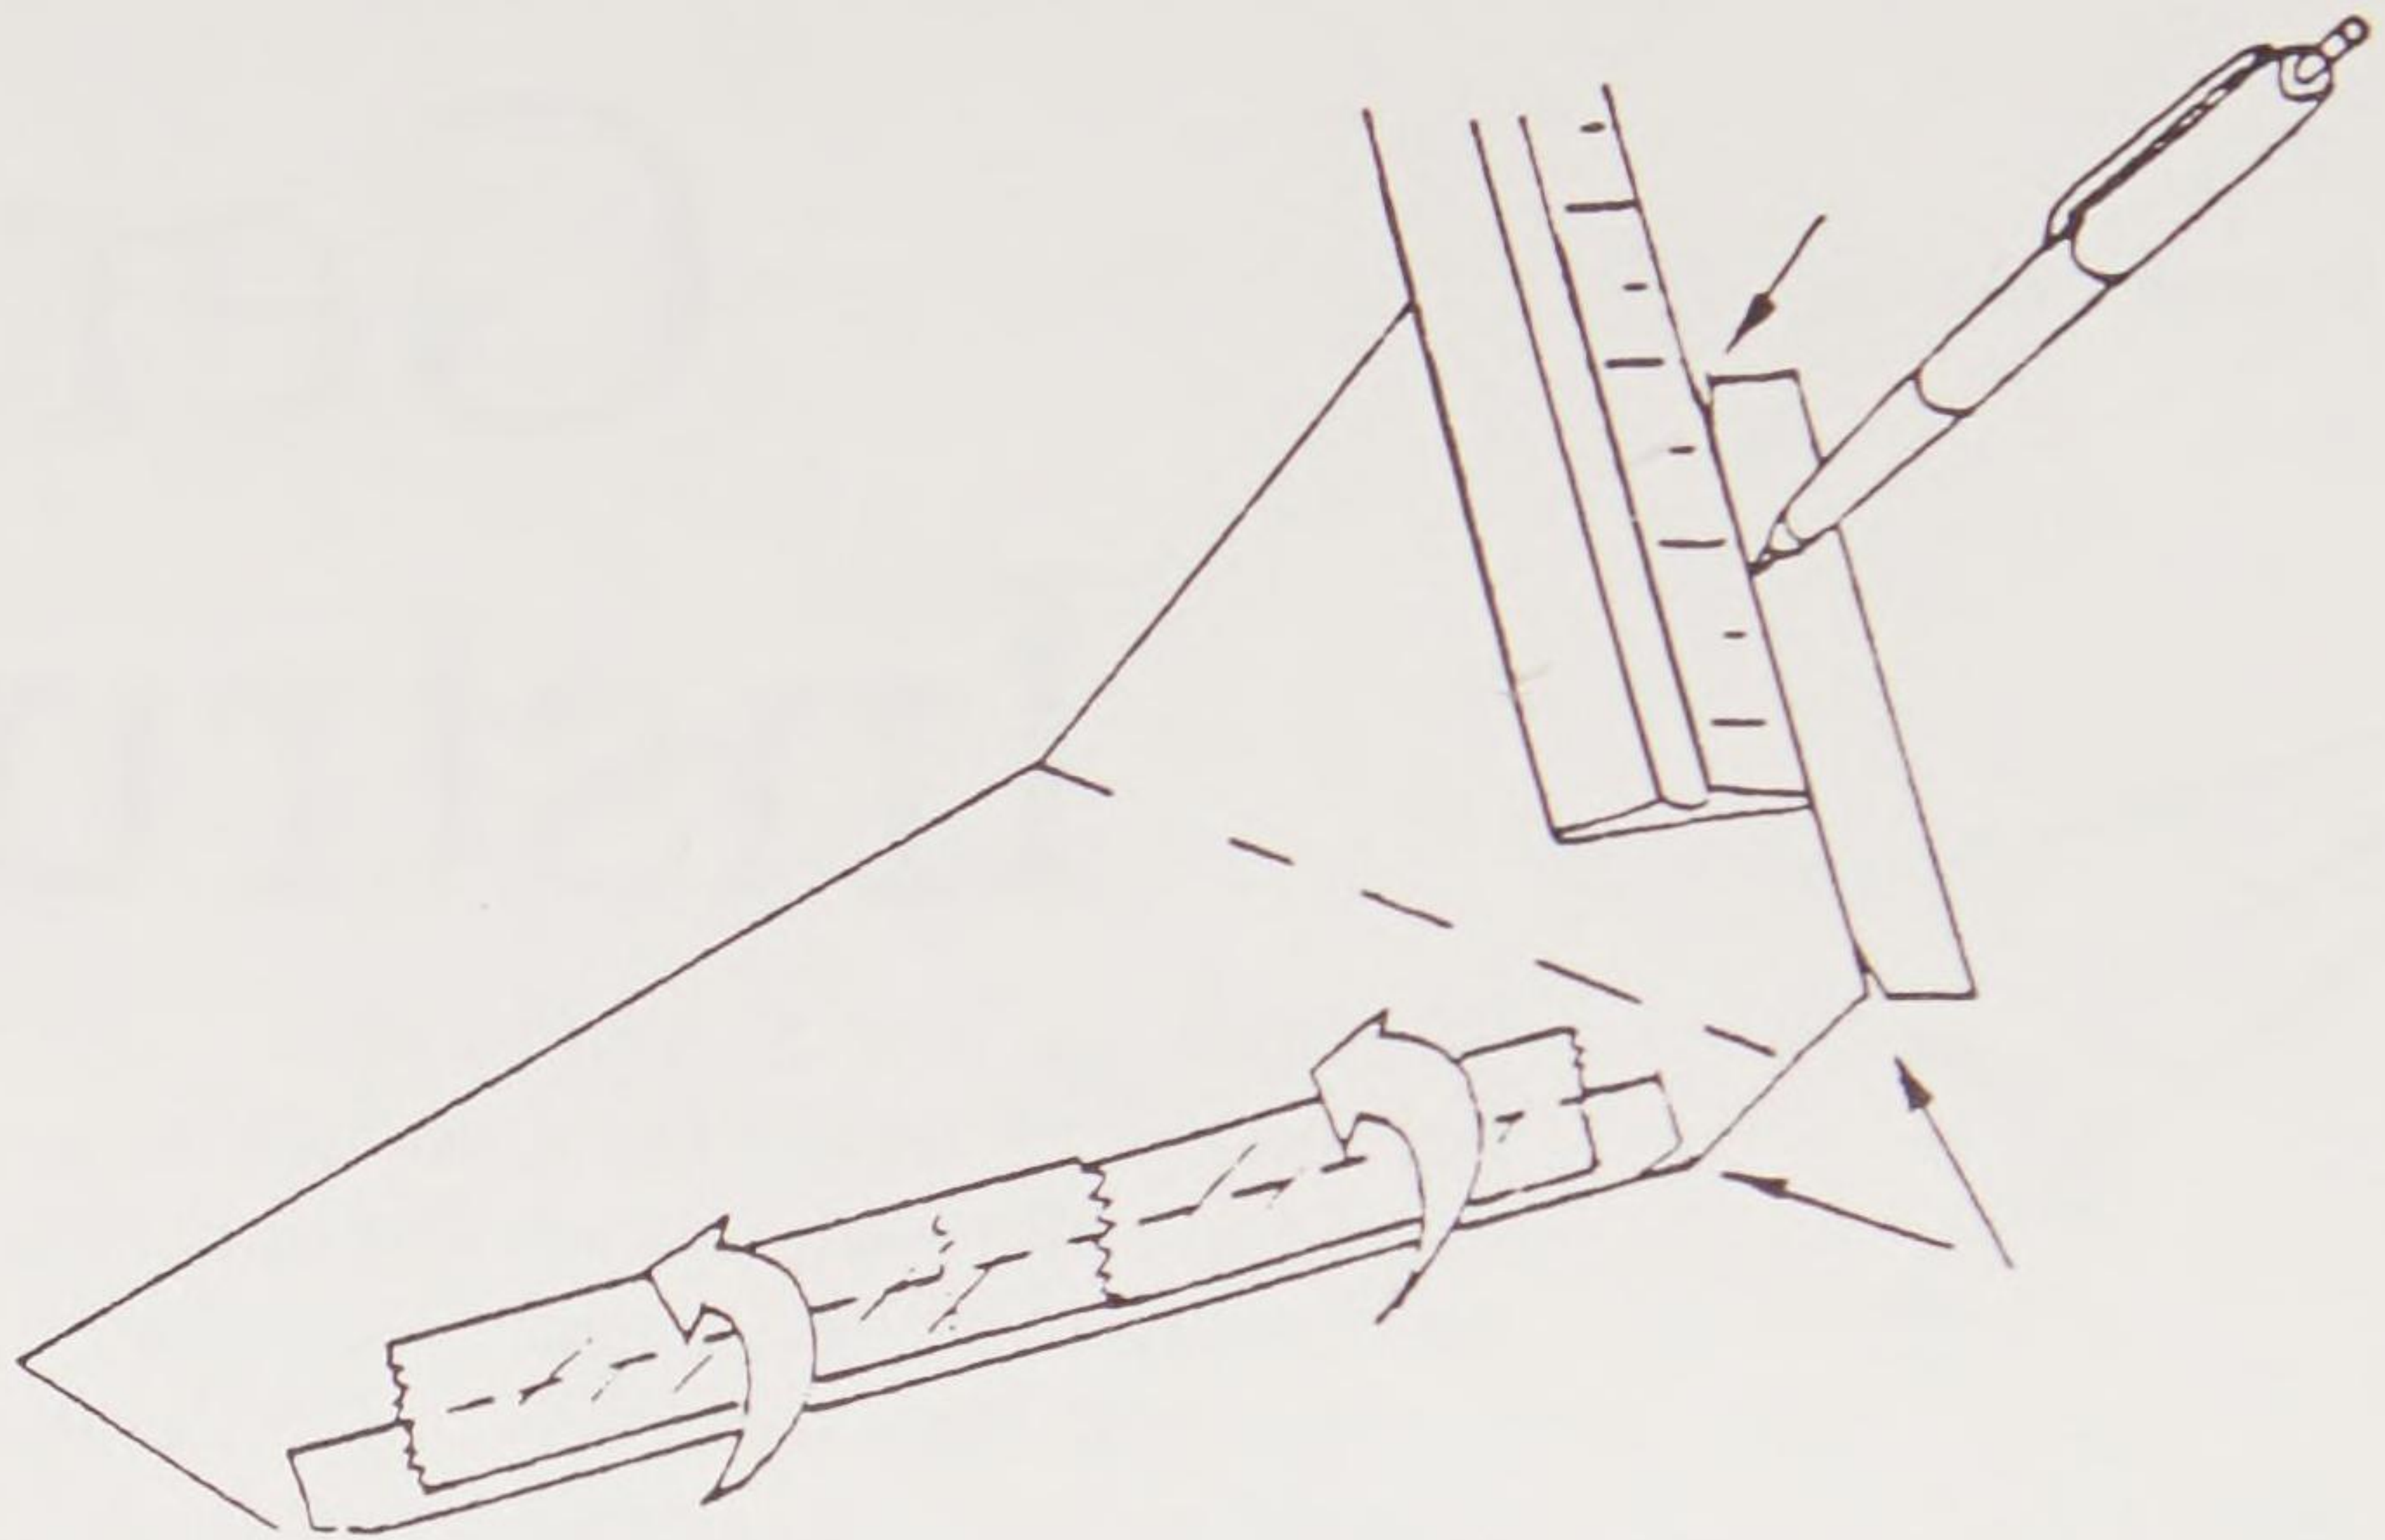

Fig. 10. Snip the fold lines as shown and score them with a ballpoint pen and a straightedge. Fold the wing tabs over and tape securely.
- 1 Note the arrows on the drawings: black for folds, white for cuts. Cut out all of the parts. Snip along the fold lines and score on the unprinted side with a ballpoint pen and ruler. Do not cut the wing slots until later. (FIG. 10)